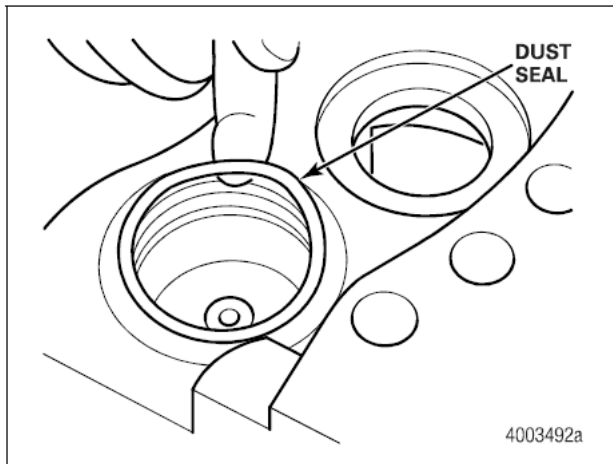

Figure 3.12
16. Use your finger or suitable tool to remove the two service piston dust seals from the caliper housing. Discard the dust seals, Figure 3.12.